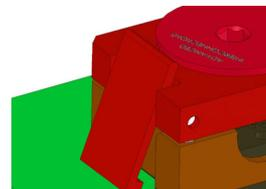

Fig.4a
2. Press latch mechanism. Refer to figure 4a in Step 4.